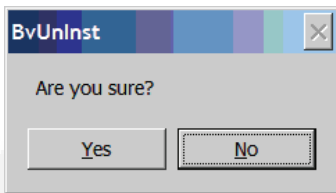

FIGURE A-9. ARE YOU SURE
17. When prompted with the message *Are you sure*, click on the **Yes** button to continue removal of PCW version 2.0. Figure A-9.